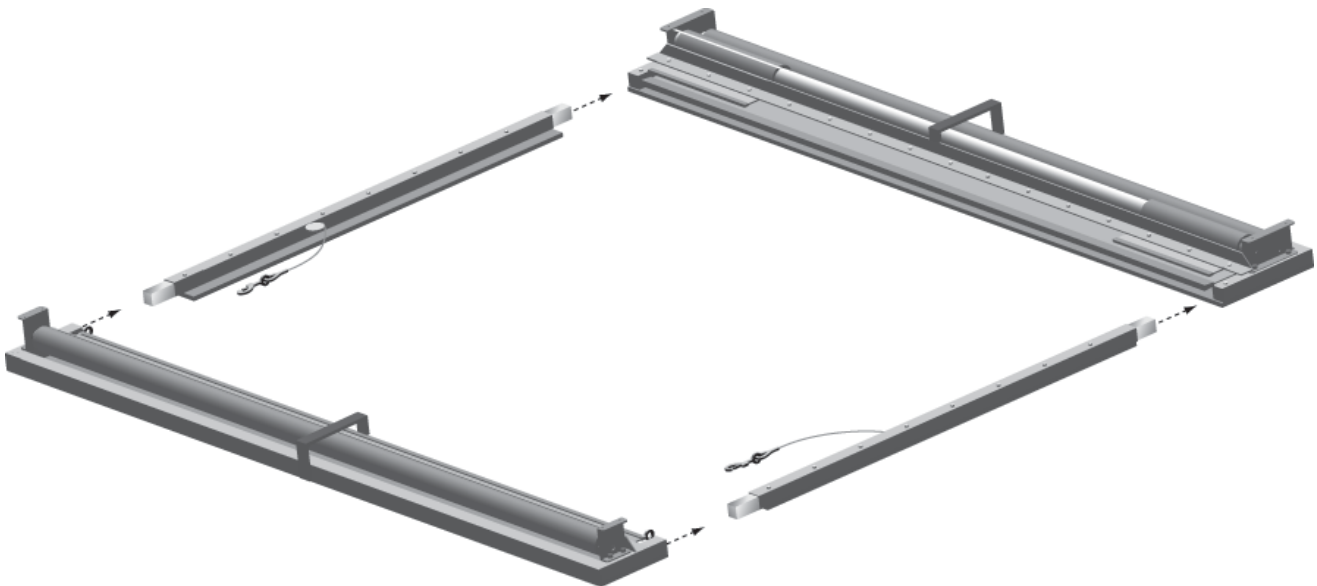

Figure 2: Assembling the frame
1. Connect the four pieces by matching the colored numbered dots on the ends of the frame pieces. See Figure 2.